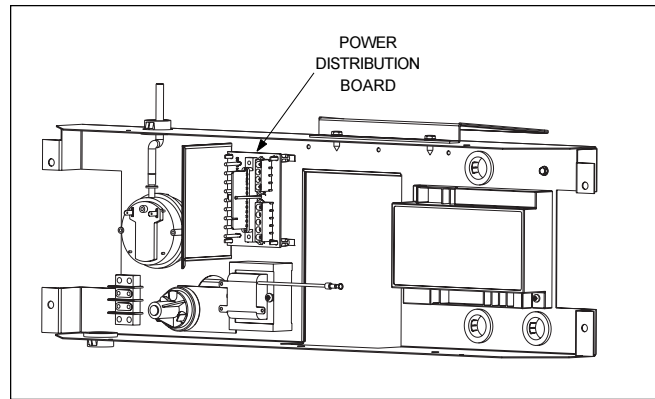

Figure 19. Location Of Power Distribution Board
1. Identify the power distribution board on the heater. It is located to the left of the fan intake on the raceway (see Figure 19).